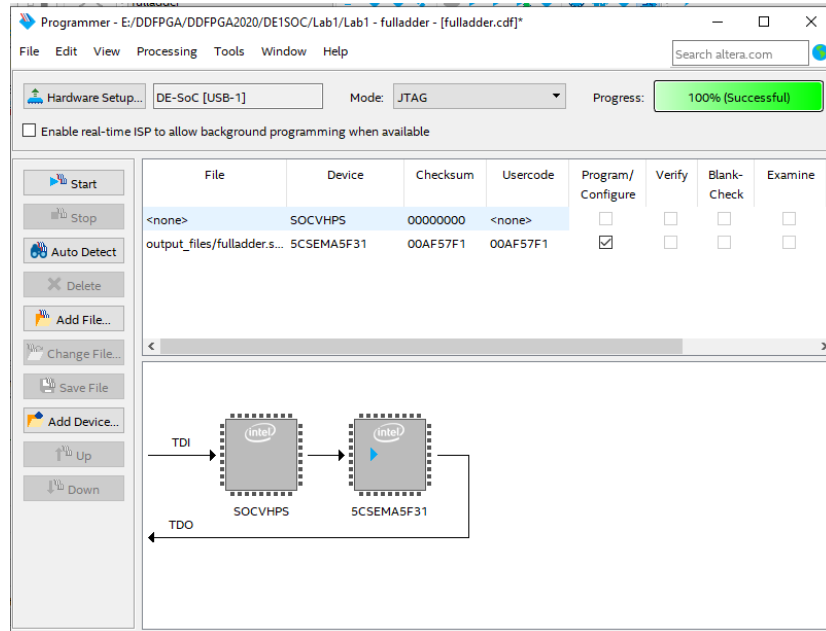

Fig. 1.12 Programmer window
- Select **Tools - Programmer** to reach the window in Fig.1.12
Observe that the configuration file **fulladder.sof** in directory output files is listed in the window. If the file is not already listed, then click **Add File** and select it. This is a binary file produced by the Compiler's Assembler module, which contains the data needed to configure the FPGA device. The extension .sof stands for SRAM Object File. Ensure the Program/Configure box is checked. This setting is used to select the FPGA in the Cyclone V SoC chip for programming. If the SOCVHPS device is not shown as in Fig. 1.12, click **Add Device - SoC Series V - SOCVHPS** then click **OK**. Ensure that your device order is consistent
with Fig. 1.12 by clicking on a device and then clicking **Up** or **Down**.